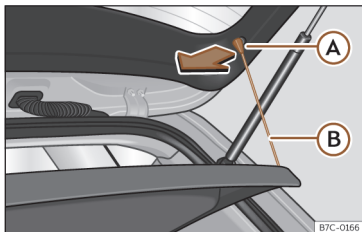

Fig. 185 In the boot: removing and installing the shelf.
- Detach the cord loops >>> **Fig. 185** (B) from their hooks (A).
- Attach the securing straps >>> **Fig. 185** (B) onto the rear lid.